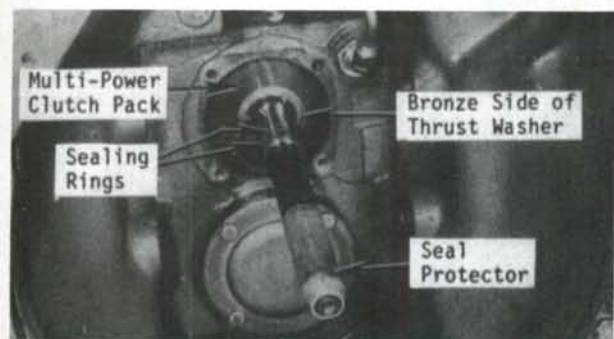

Fig. 206—Bronze side of input shaft thrust washer should face away from clutch pack. Use appropriate seal protector over end of shaft when assembling.
To reinstall input shaft and clutch unit, reverse the removal procedure. Be sure that tab of spacer (17) is correctly located and that convex side of spacer is toward the clutch unit. Make certain that bronze side of thrust washer (Fig. 206) faces away from Multi-Power clutch pack and that ends of input shaft seal rings are properly hooked. A suitable seal protector should be used over end of input shaft to prevent damage to oil seal when assembling.